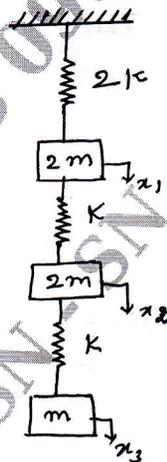

Fig.Q7(a)
- 7 a. Find the lowest natural frequency of the system shown in Fig.Q7(a) by Stodola method. Also plot the mode shape.